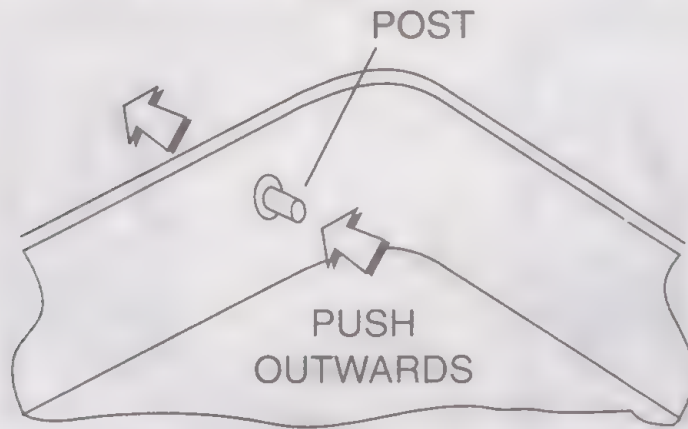

Figure 6
- (ii) Remove the post shown in figure 6. Place it on the corner of a table and push downwards (note: cover unit with a cloth to prevent the post flying upwards). This should leave a neat circular hole.